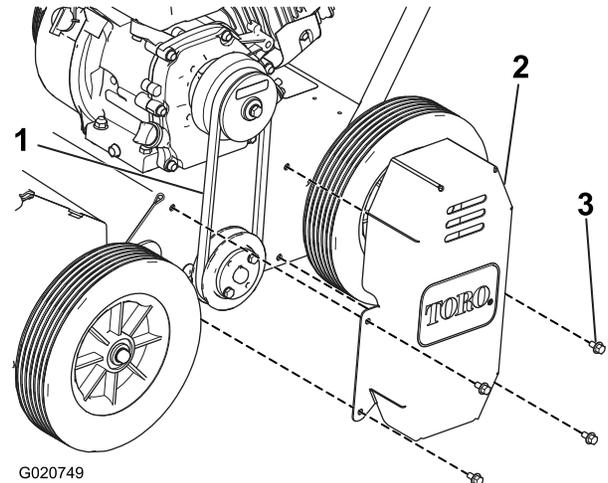

Figure 19
2. Remove the 4 bolts securing the belt cover to the left side of the machine and remove the cover (Figure 19).
3. Check the tension of the belt (Figure 19).